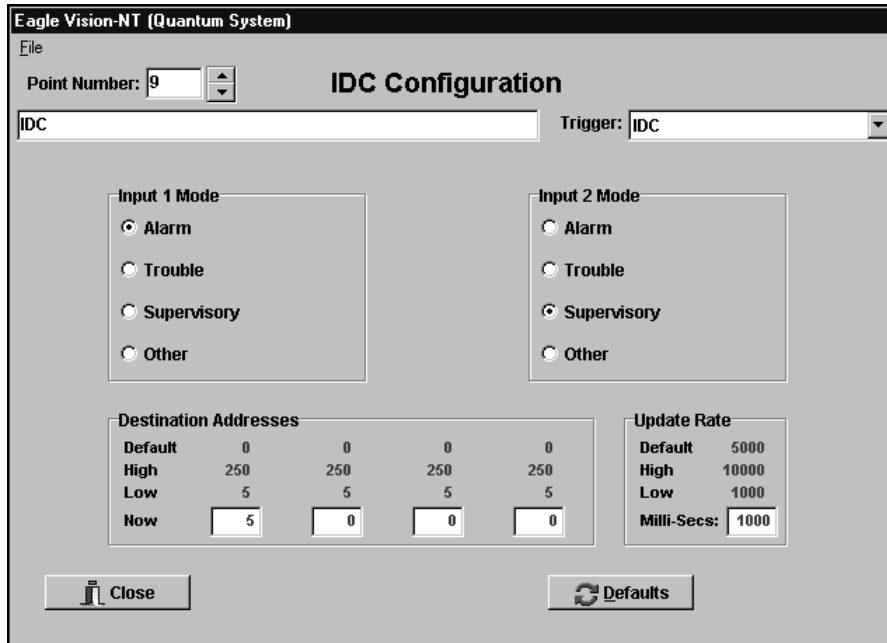

FIGURE V-7
3. Click on the IDC button, then click on OK. The IDC Configuration screen will be displayed. See Figure V-7.